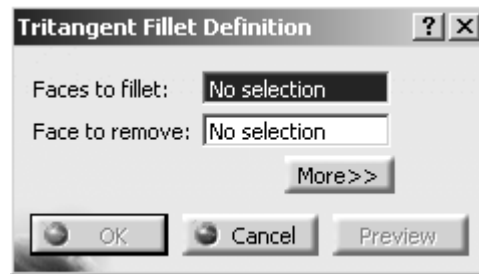

**Figure 2.3**
2.8 Use the **Pad** tool to extrude the profile 40mm. Your part should look similar to the one shown in figure 2.3